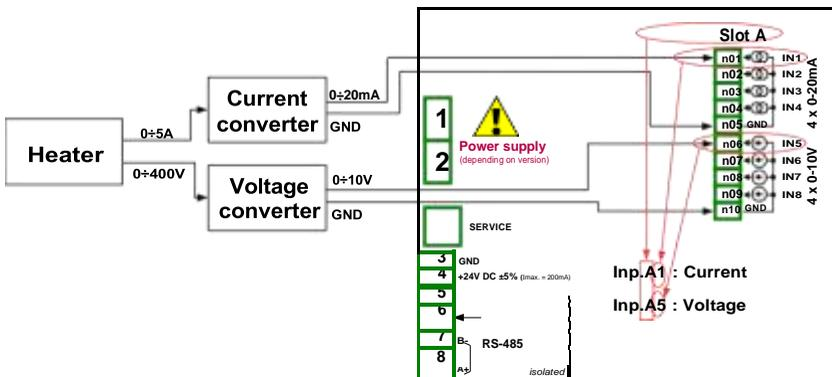

Fig. 7.62. Schematic diagram for the UI4 module
First configure the device as described below, then connect the heater to converters and then to the device (in accordance with **Fig. 7.62**).
- **Source** parameter set as **Inp. A1 : Current** (see the connection in **Fig. 7.62**),
- **Source** parameter set as **Inp. A5: Voltage** (see the connection in **Fig. 7.62**),